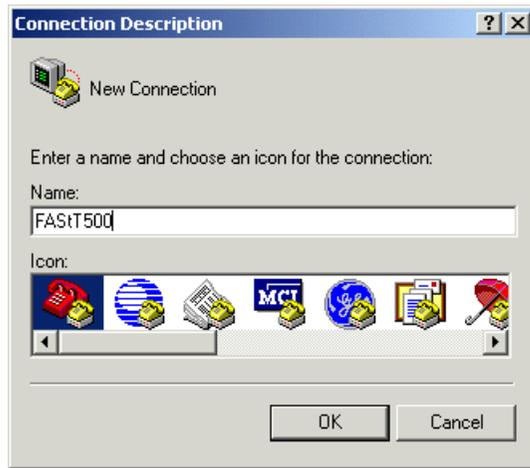

Figure 5-1 Connection Description window
3. The application starts, and the Connection Description window is displayed. This is where you define a connection name, such as FAStT500, which we used, as shown in Figure 5-1: